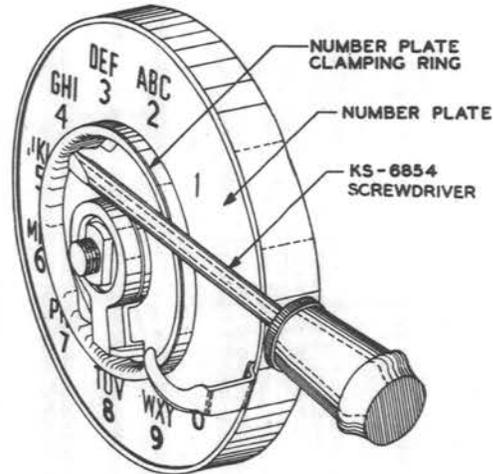
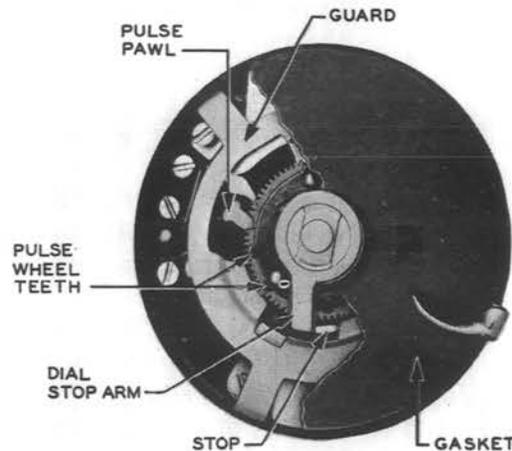

Fig. 17 — Method of Removing the Number Plate Clamping Ring on All Dials Except the 6 Type
Fig. 18 — Gasket and Guard on 5-Type Dials
(4) Pry off the number plate clamping ring with the KS-6854 screwdriver. To avoid marring the surface of the number plate, apply the screwdriver as shown in Fig. 17. Never apply the end of the screwdriver to the outside of the clamping ring. Remove the number plate, and the gasket and guard, if the latter are provided, as shown in Fig. 18. Do not remove the number plate support.